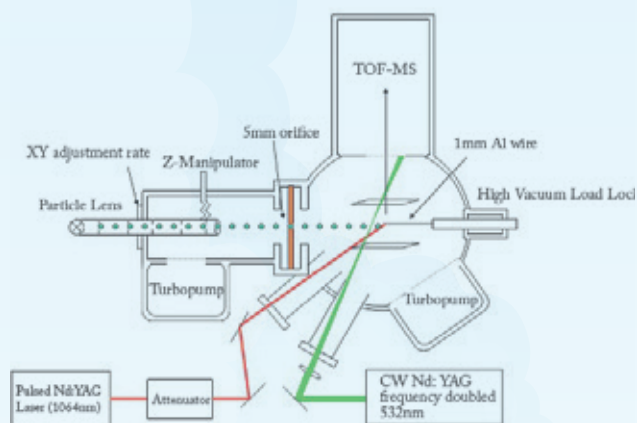

Figure 2. General instrumental layout for NIR-LDI-AMS instrument
Figure 2. Jelly bean-omics and blood metabolite measurement. Consider the “guessing” game we’ve all played: how many jelly beans are in the jar? We wouldn’t want a “guessing” game on how much of a particular compound, say phenylalanine (an amino acid) is in our blood. In fact, we don’t guess as to how much of a particular metabolite is in our blood; rather we take a sample, add a standard for reference, detect both standard and the metabolite using a chemistry based analysis and calculate an amount. Panel A shows a jar of jelly beans, or a tube of blood containing phenylalanine. How many cherry red jelly beans are in the jar? Or, how much phenylalanine is in the blood? Using the rules of a clinical lab we can add a reference standard to blood (stable isotope labeled phenylalanine, or blue molecules). We can add 12 blue berry jelly beans to the jar as a standard (B). After mixing, we now take our samples and then make our measurements. In the clinical lab, we can take a small aliquot (a drop of blood – or in the case of the jelly beans a small cupful) as illustrated in Panel C. Note we don’t attempt to analyze the entire blood sample collected nor count every molecule in our blood as we cannot count every jelly bean (as per the rules of the contest). The next step is to analyze our metabolite and standard – or sort our jelly beans – and count how many in the sample we obtained (Panel D). In the case of phenylalanine and its isotope standard, we can sort these compounds by their mass using a mass spectrometer. For jelly beans, it is as simple as sorting by color. In both cases, we calculate how many of each group (color or mass). Finally, as illustrated in Panel E, we have to translate our results from Panel D into our analytical answer: how many cherry red jelly beans are in the jar or how much phenylalanine? In the case of jelly beans, we know we added 12 blue jelly beans and measured three red and three blue jelly beans. A simple ratio of red to blue multiplied by how many we added originally will produce the amount of cherry red jelly beans in the jar, which is in fact 12. For blood measurement, we added 50  $\mu\text{M}$  (micromoles per liter) of the isotope standard. We measured a ratio of three times as much phenylalanine relative to standard, a ratio of three to one in terms of molecules (ions) counted. We simply multiply this ratio by the isotope internal standard and obtain the actual concentration of phenylalanine in blood. It’s certainly much simpler than the impossible task of counting every molecule in a blood sample.